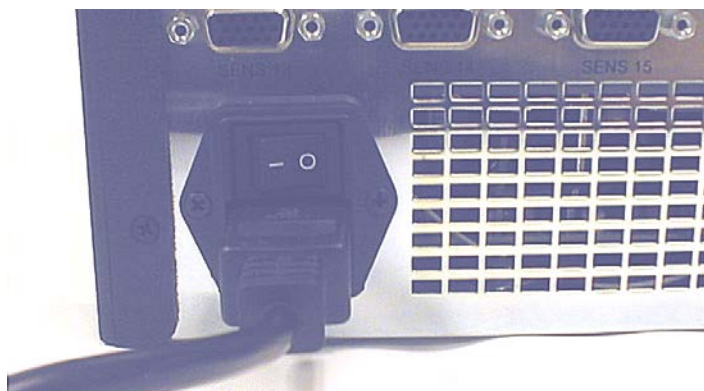

Figure 1-6: Power Connector
1.2.6 Identify the power entry module with the ON/OFF rocker switch on the rear panel. Ensure that this switch is in the OFF position (logic “0”, RIGHT) before inserting the AC power cord and applying 110/220 VAC. See Figure 1-6.